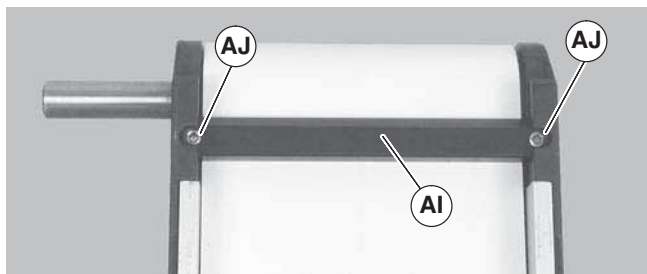

Figure 15
1. If equipped, remove bottom wipers (Figure 15, item AI): Remove fastening screws (AJ) then remove wiper (AI).